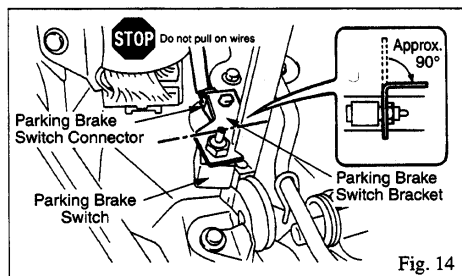

Fig. 14
(14) Disconnect the connector from the parking brake switch bracket. (Fig. 14)
(15) Fold the parking brake switch bracket towards you along the dotted line as illustrated in the figure. (Fig. 14)